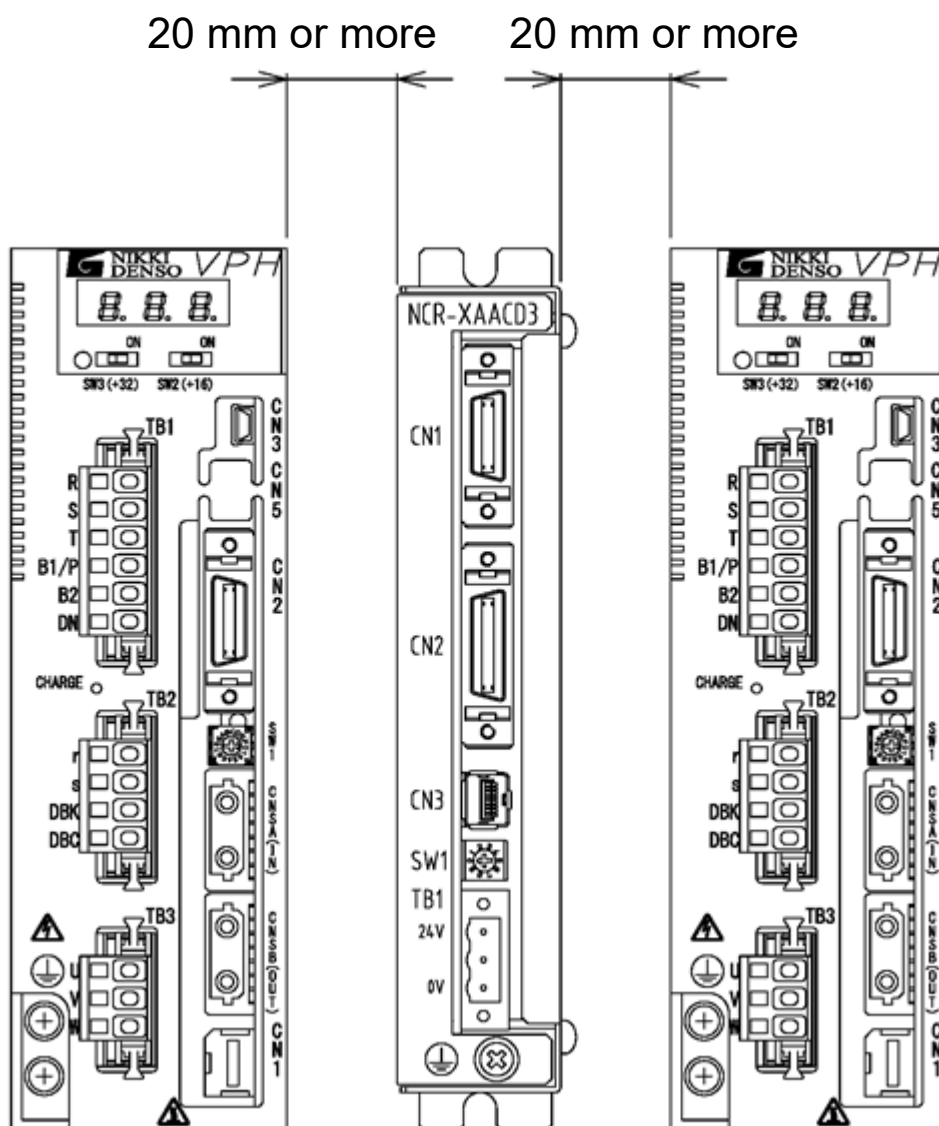

Figure 3-1 Encoder distribution unit installation example
- (1) Be sure to install the device in the vertical direction to secure normal heat radiation effect.
- (2) Space around the device must be secured with the distances specified in Figure 3-1 Encoder distribution unit installation example from other devices in view of heat radiation efficiency and maintenance easiness.